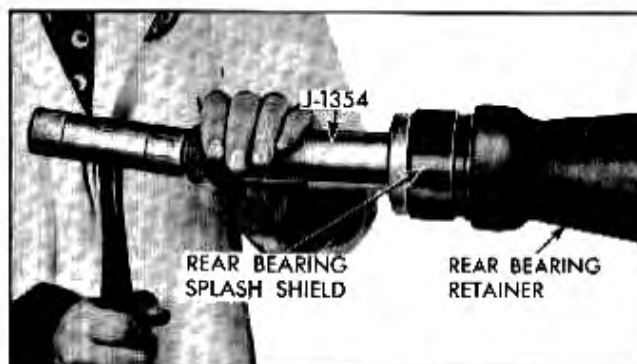

Fig. 7-4 Installing Oil Seal
7. Install new oil seal in bearing retainer using Tool J-1354 (Fig. 7-4).